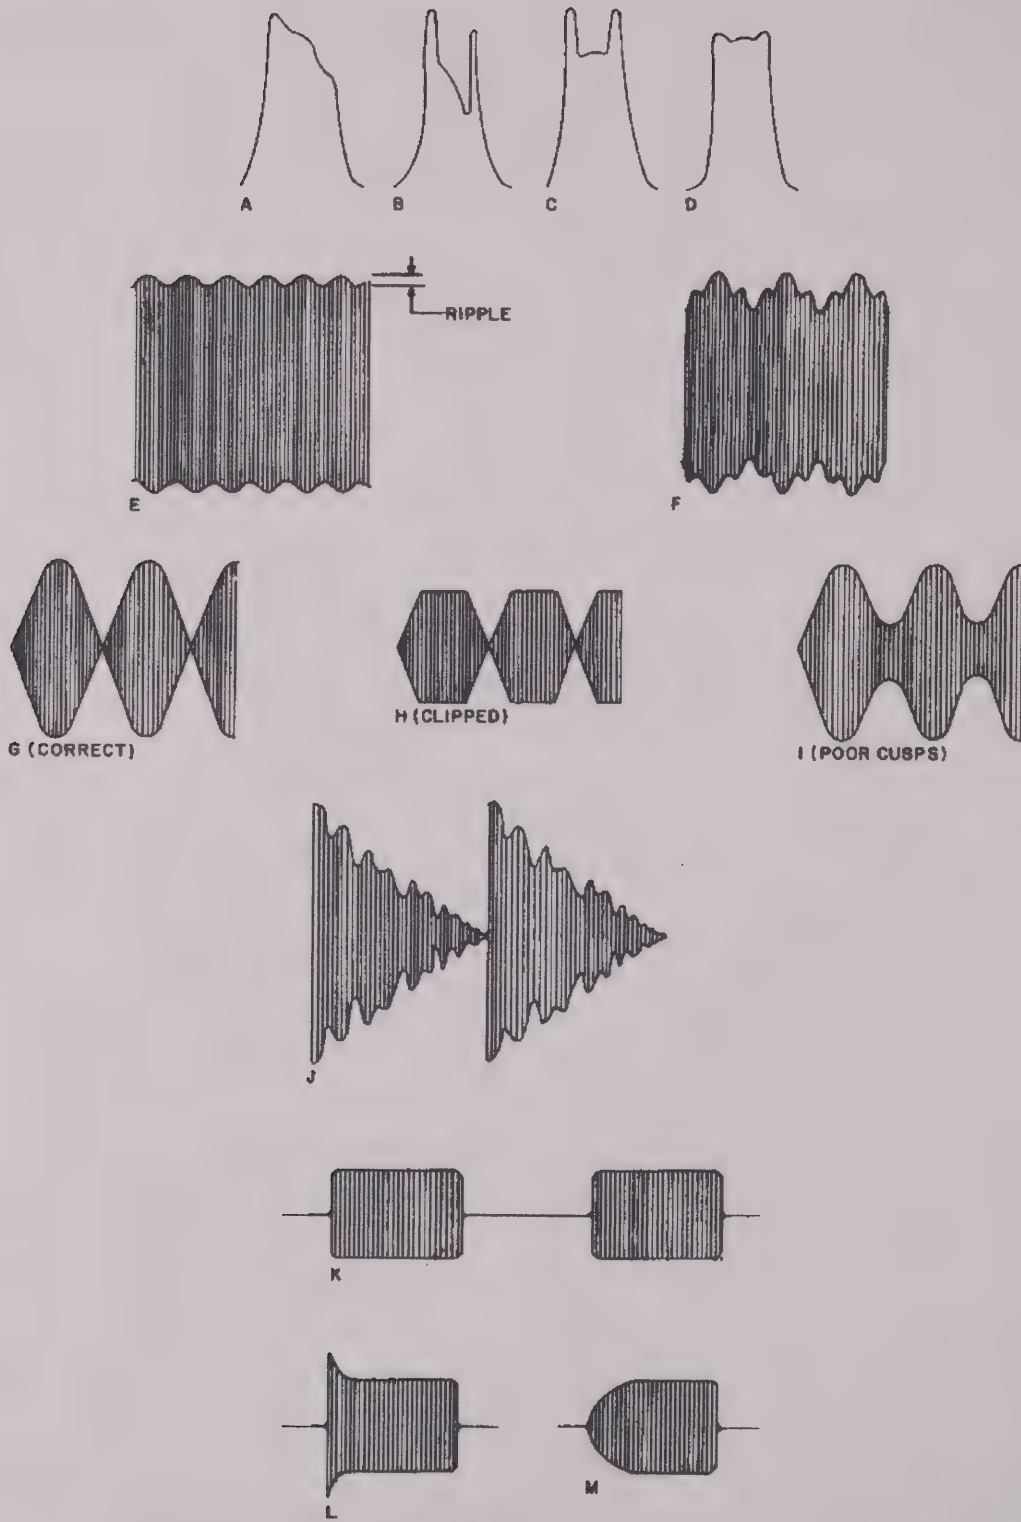

Figure 5. NCX-3 Wave Forms
11. Set the transmitting key for a long series of dots. Adjust the CARRIER BALANCE control for transmitter output just below full power. Observe the series of keying pulses on the high-frequency oscilloscope. A proper keying pulse should appear as in figure 5-K. Figure 5-L and 5-M indicate improper keying sequences.
reaches 150 volts peak-to-peak. The cathode current meter should, at this point, indicate a current in the region of 250 ma. The wave form at this point should appear as indicated in figure 5-E. It is necessary to note the level of ripple on the wave form relative to the total wave form level. The ripple should not exceed 1/50 of the total wave form.
It is important to note the difference between carrier balance and unwanted sideband suppression in the previous measurement. If the CARRIER BALANCE control is rotated ever so slightly, the wave form of figure 5-E will be altered to the wave form of figure 5-F. If this wave form is present while attempting to make the sideband suppression measurement, the CARRIER BALANCE control should be slightly adjusted in order to compensate and return the wave form to that of figure 5-E.
Now, further advance the MIC GAIN until the cathode current meter just reaches 300 ma. as set by our previous tune-up procedure. Note the oscilloscope level. Slowly advance the CARRIER BALANCE control either cw or ccw from the balance setting. As this occurs, the wave form will begin to develop large cusps and peaks which will tend to exceed the noted oscilloscope level. Slowly reduce the MIC GAIN. By carefully adjusting between the MIC GAIN and the CARRIER BALANCE control keep the peaks at the pre-determined level. It should be possible to obtain a picture as illustrated in figure 5-G. It is important that the peaks of this figure be exactly at the level determined with the balanced carrier at 300 ma. of the cathode current. This is equivalent to a two-tone test and is useful in indicating distortion in the transmitter channel and performance of the modulating circuits. The wave form which is observed should have a clean sharp cusp and should have a sine wave envelope. There should be no flattening of the peaks and no broadening of the cusps. Typical incorrect wave forms are indicated in figure 5-I.
If all tests are completed satisfactorily, we can assume that the transmitter is working properly, although it is of value to check the dynamic operation of the transmitter with speech information. To do this, return the MIC GAIN to zero and balance the carrier with the CARRIER BALANCE control. Now, remove the audio generator from the microphone jack and replace it with the test microphone. Press the push-to-talk button and speak normally into the microphone. Slowly advance the MIC GAIN control until the peaks of the resulting signal reach the amplitude used for the previous two-tone type of test. At this point, the cathode current meter will be fluctuating rapidly with the speech content. The current meter should generally average around 100 ma. of current and the output wave form should appear as illustrated in figure 5-J.
Release the push-to-talk button; the relay of the NCX-3 should close indicating a return to receiving condition. The display on the oscilloscope should disappear as the relay clicks. Remove the high-frequency oscilloscope connection and the signal generator connection. Set the function switch to AM. Attach the output of the 5 mc. sweep generator to the grid (Pin 7) of the 6BE6 receive mixer. Connect the low frequency oscilloscope probe to the junction of C78, CB7, D1, and D2. With the sweep generator output set for approximately 500 μ v., the oscilloscope display should indicate a filter curve with a shape similar to that indicated in figure 5-A. The slug of the filter output coil (T2) should be slowly withdrawn from the coil to elevate the right-hand side of the display. If the display indicates excessive peak-to-valley excursions, or "ripple", the top slug of the balanced modulator transformer (T1) should be carefully adjusted to minimize this ripple as indicated in figures 5-B and 5-C. The bottom slug of the balanced modulator transformer (T1) may be slightly adjusted to correct tilt in the filter curve. With proper alignment, the resulting curve should look like figure 5-D.